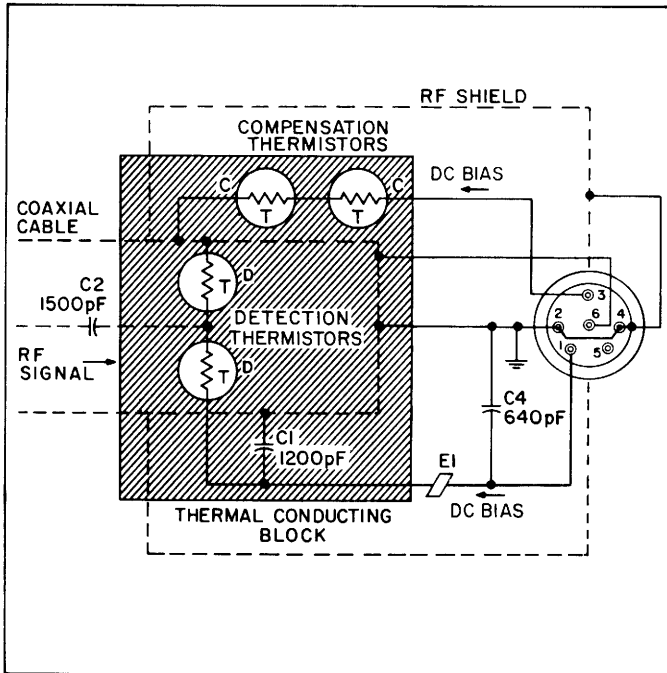

Figure 6. Schematic Diagram of a Model 478A Thermistor Mount when Connected to a 432 Power Meter
52. During 432 operation (see Figure 6) sufficient amounts of dc current are supplied from 432 Power Meter to heat the thermistors until their resistances are reduced to approximately 200Ω per series pair. Capacitor C1 is practically a short to RF. This causes "D" to appear series connected to the dc bridge, parallel connected to RF. In this manner, "D" appears to the dc bridge in the 432 Power Meter as a 200Ω resistance that terminates the coaxial cable into 50Ω . Capacitor C2 blocks any dc and audio power that may be present in the incoming signal and passes only RF power.
56. Under normal operation the total power applied to heat thermistor pair "D" (see Figure 6) consists of: 1) RF signal and 2) heat from the environment. The total power supplied to heat thermistor "C" consists of: 1) dc bias and 2) heat from the same environment. As "D" and "C" are matched thermally, the total amounts of heat applied to reduce their series resistance equally must be equal.
60. Match between the thermistors may be checked by comparing the thermistor resistances under simulated operating conditions. Equipment required is indicated in Figure 6. Make connections to the connector at the rear of the thermistor mount; pins are shown in Figure 6. Note that the small battery in series with the HP Model 3440 Digital Voltmeter is connected in opposition